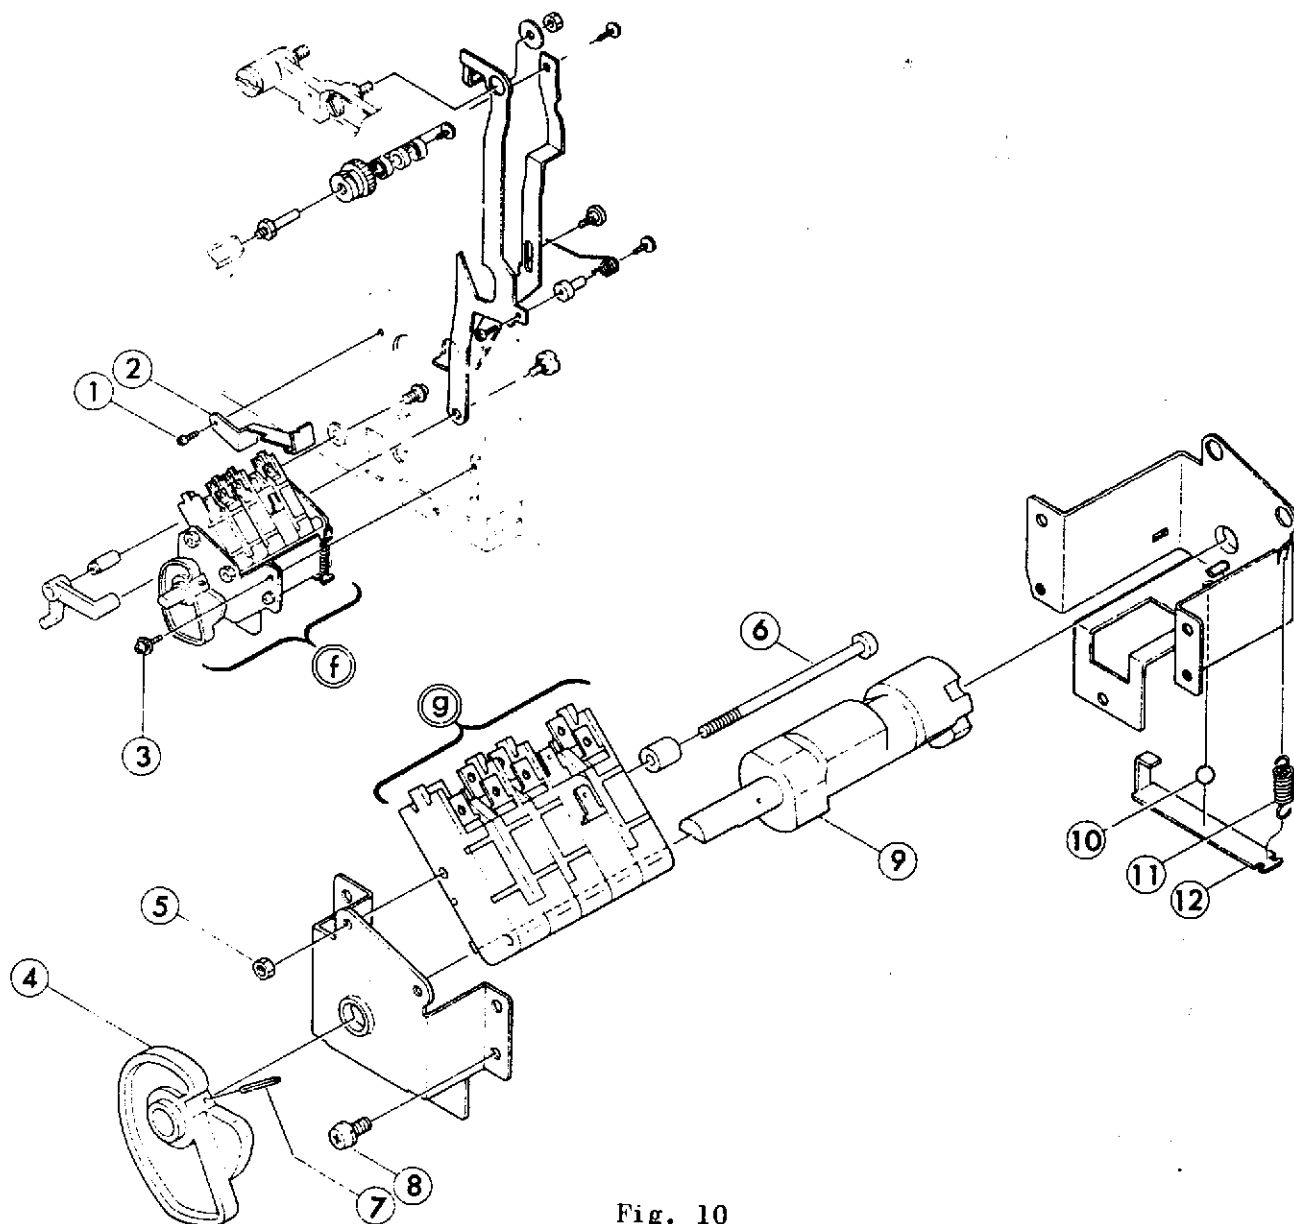

Fig. 10
- (4) Remove (f) in Fig. 10 by detaching Fig. 10-3x3 and disconnect lead wires of (g) in Fig. 10.
- (5) Remove (g) in Fig. 10 by detaching Fig. 10-5x2,6x2.